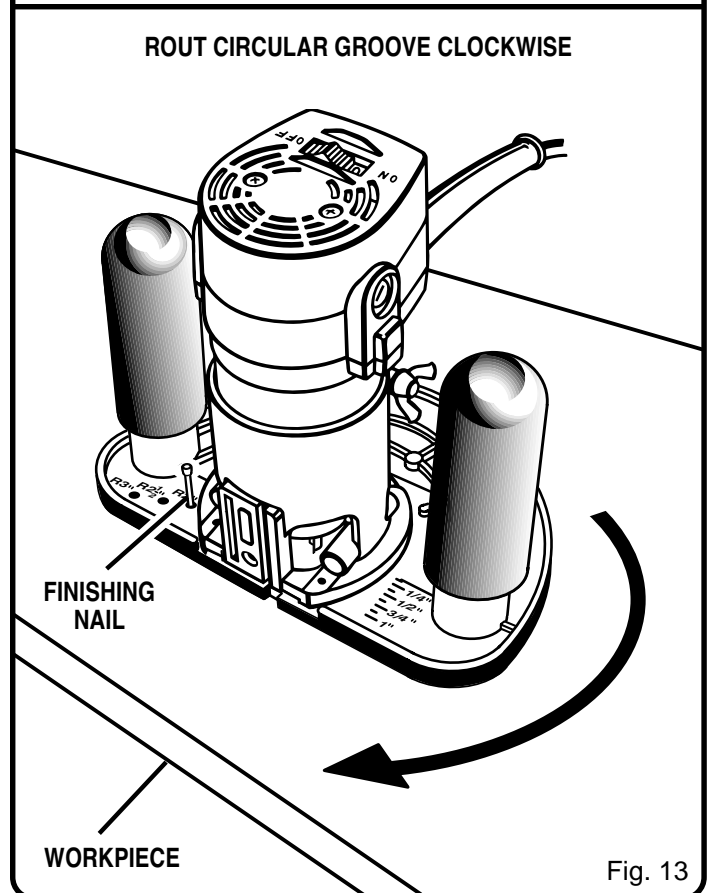

Fig. 13
See Figure 13.
- Rout circular groove in a clockwise direction only. See arrow shown in figure 13.